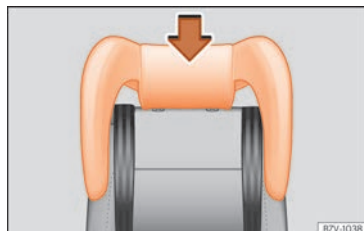

**Fig. 33** Integrated child seat: fit its headrest.
- Enter the child seat head support in the corresponding backrest until it fits correctly into place »» Fig. 33.